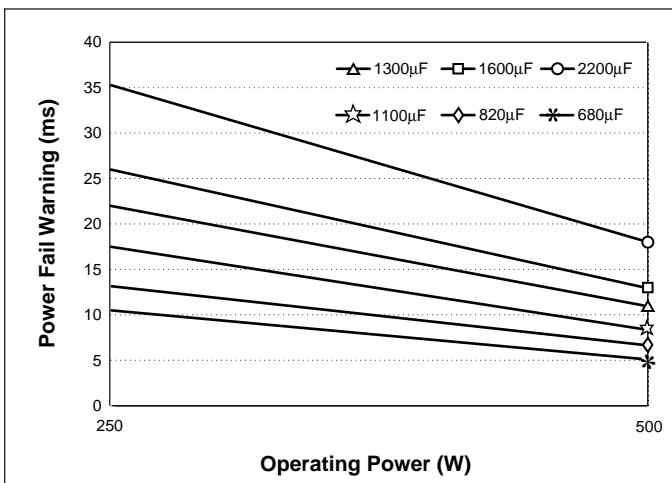

Figure 14—Hold-up time vs. operating power and total bus capacitance, series combination of C1, C2 (see Figure 1a)
Calculated values of bus capacitance for various hold-up time, ride-through time, and ripple voltage requirements are given as a function of operating power level in Figures 14, 15, and 16, respectively.
**Warning.** Figure 14 is used to determine capacitance for a given power fail warning time and power level, and shows that the total bus capacitance should be at least 820 $\mu$ F. Since two capacitors are used in series, each capacitor should be at least 1,640 $\mu$ F. Note that warning time is not dependent on line voltage. A hold-up capacitor calculator is available on the Vicor website, at vicorpower.com.